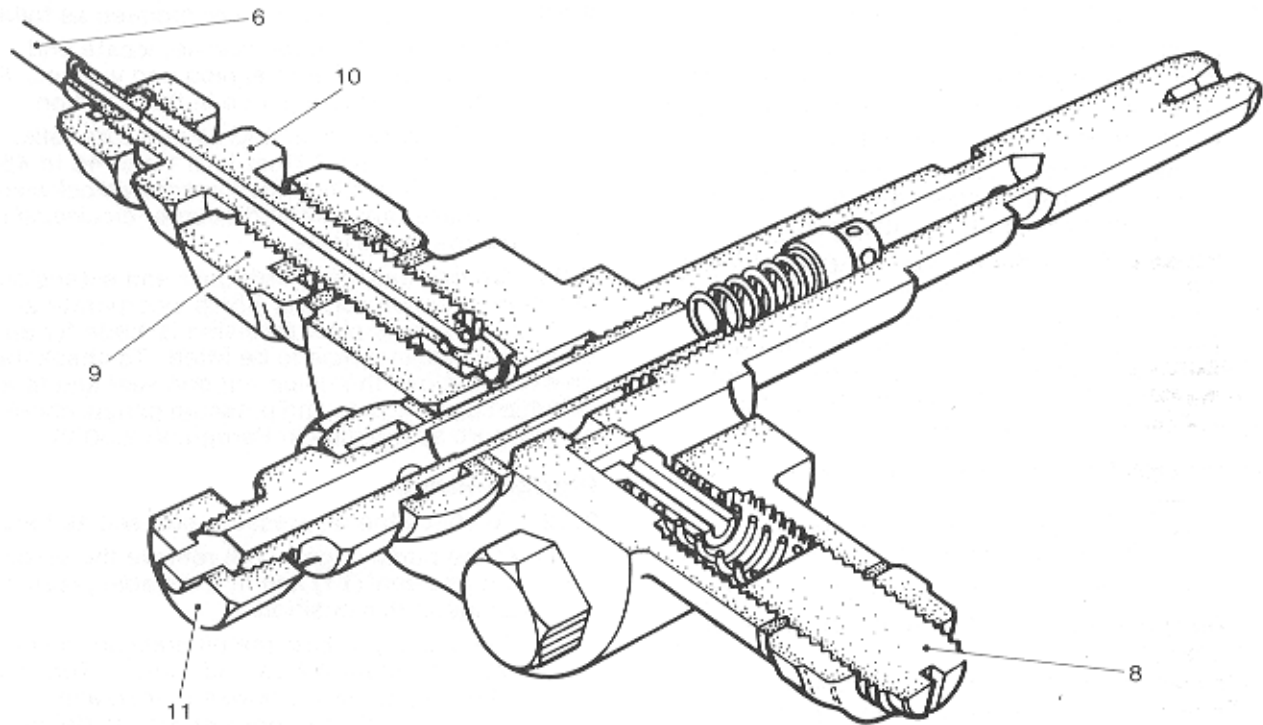

Figure 2.8 Plunger Oil Pump: Reducing and Pressure Relief Valves
2.26 To set the oil feed to the valve rockers refer to Figure 2.8 and proceed as follows:
- (1) At the pump (Figure 2.8) remove the union nut and seal **(11)** and fit a suitable pressure gauge in this position.
- (2) If necessary, adjust the oil pressure relief valve to obtain 2.4 bar (35 lb/in.²). Turn the adjusting screw clockwise to increase pressure and counter-clockwise to decrease pressure.